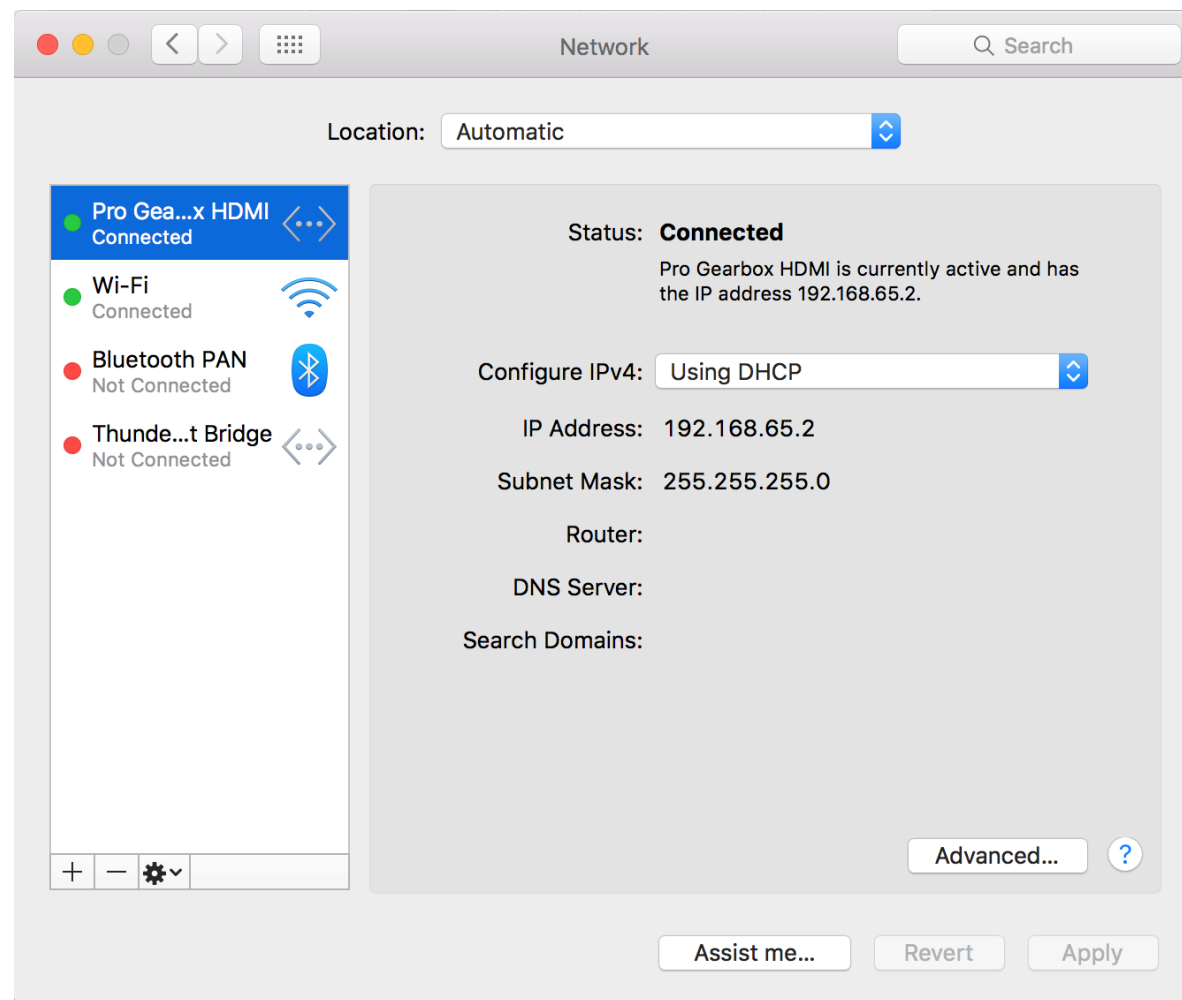

Figure3. Mac
2. Choose **Pro Gearbox HDMI**, and check the **IP Address**, as shown in Figure3. Mac.